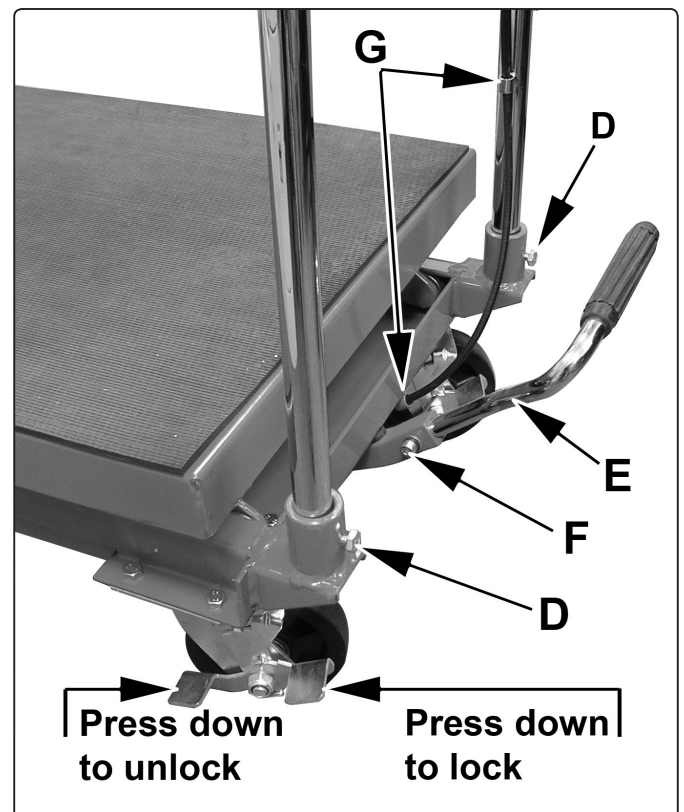

fig.1
- Lock the truck wheels individually with the wheel foot brakes. (See fig.1)